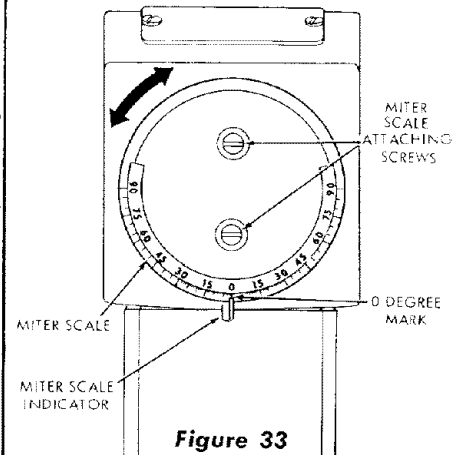

Figure 33
- i. Loosen the two miter scale attaching screws (figure 33) and rotate the miter scale until the 0° mark is aligned with the indicator. Tighten screws and re-check.